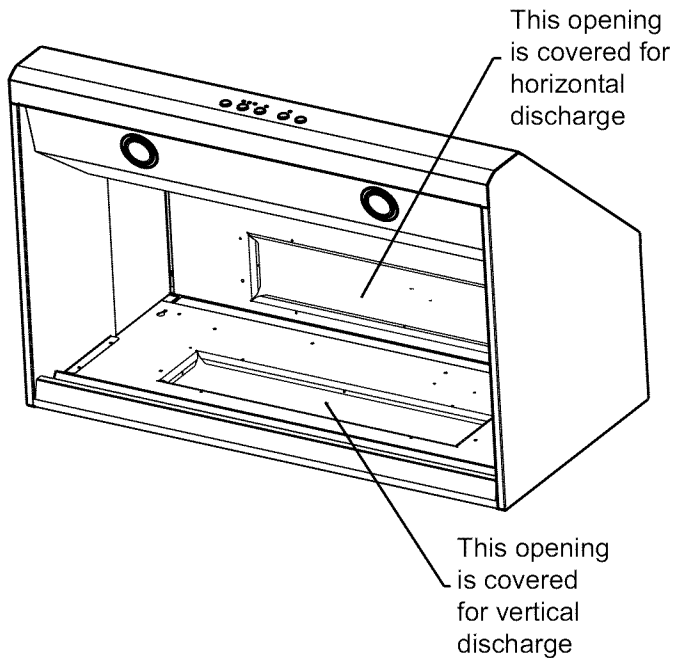

Figure 1: Discharge Direction
The hood is shipped ready for vertical discharge. To change to horizontal discharge, move the discharge cover shown in Figure 1 to the top of the hood. The plate is held in place by four (4) screws.